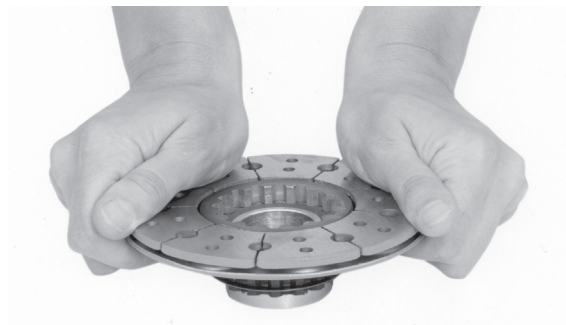

Figure 6
5. Turn the hub over and repeat Steps 3 and 4 with the other armature. (Figure 6)